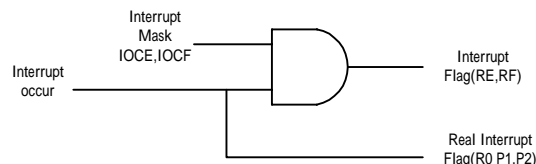

Fig7 : Relation with interrupt mask ,flag and real flag
**Bit 0~Bit 3, Bit 6~Bit 7(Internal interrupt flag real value) :** Interrupt flag1 real value. The relation of R1 Page2, RF PAGE0 and IOCF PAGE0 is shown in fig7. When user disable interrupt mask, whether interrupt occur or not , interrupt flag(RF PAGE0) will appear "0". Opposite of RF PAGE0, R1 PAGE1 will show real interrupt occur status regardless this interrupt mask enable or disable. *User can clear corresponding interrupt flag in RF PAGE0 or R1 PAGE2.*